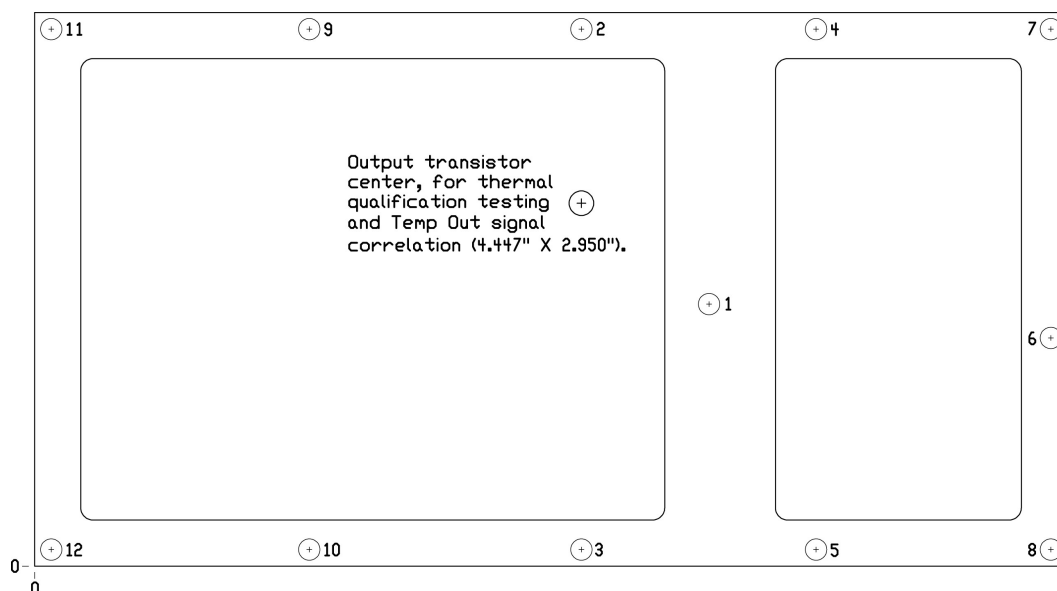

**Figure 4: HD31583 Typical  $P_{1dB}$  and Safe
- 6) Apply +50VDC, then +28VDC, then sufficient RF drive to achieve desired output level. The maximum amplifier RF input power is +0.7dBm. [This amplifier is designed to operate in a non-saturated linear mode only. Regardless of the input power, ensure that the Safe Operating Area \(SOA\) power level indicated in Figure 4 is not exceeded, or amplifier damage may occur, and will void the warranty.](#)